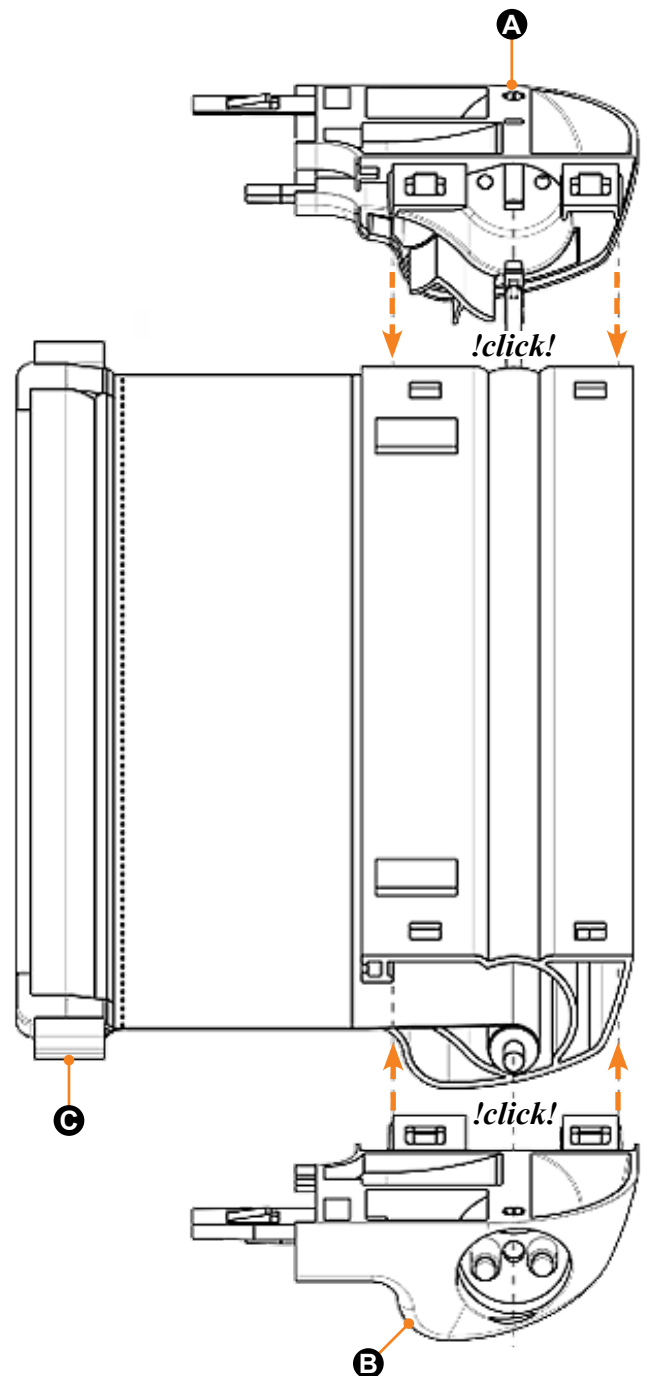

Fig.5
A. The spring tensioner and roller shaft end molding (Item E) can be pushed into the flyscreen/blind roller (Fig.5).
B. Make sure the end moldings are placed into the correct sides as shown in figure 5.
A. Align the spring tensioner and roller shaft end moldings with the holes in the corner moldings (Fig.5).
C. After all parts have been aligned, press the corner moldings into the rail. A click will be heard when the two tabs (Fig.5) have engaged.